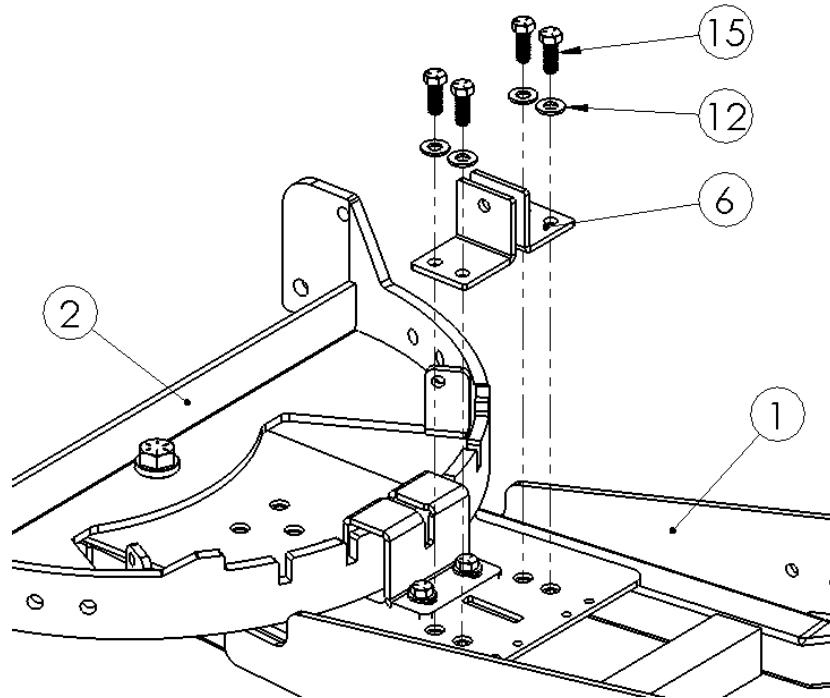

Figure 7
- 3) Attach the Pivot Lever Risers to the Lift Arm using four $\frac{3}{8}$ " x 1.00" Hex Bolts and $\frac{3}{8}$ " Flat Washers as shown in Figure 7.